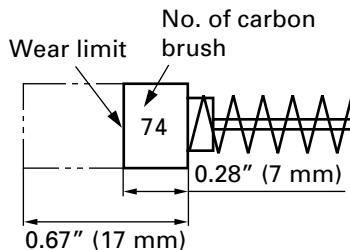

Fig. 11
## 3. Inspecting the carbon brushes (Fig. 11)
**NOTE:** Use HITACHI carbon brush No. 74 indicated in Fig. 11.